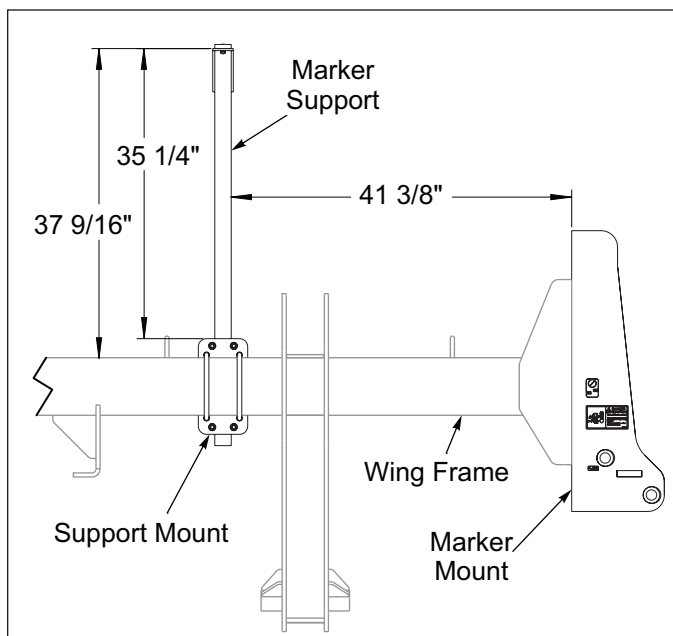

Figure 2-31: Marker Support Positioning
4. Position Marker Support side to side and up and down distance. Tighten all U-Bolt Hardware. **See Figure 2-31.**